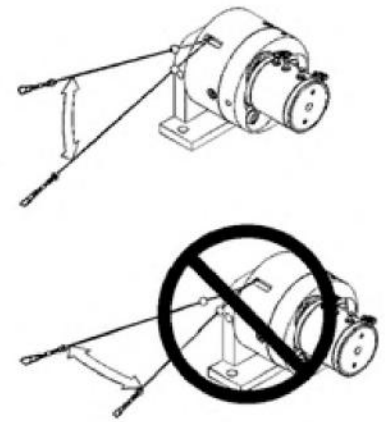

Figure 3
- On units with slot cable exits, when the displacement cable is cycled, it should be kept in a position such that it does not drag on any part of the cable exit slot it passes through. This advice is for both set-up and use of the product. It is also important to keep the cable in line with the drum (pulley) groove. Doing so will keep the cable in the groove, preventing it from jumping track and getting jammed internally. See Figure 3.